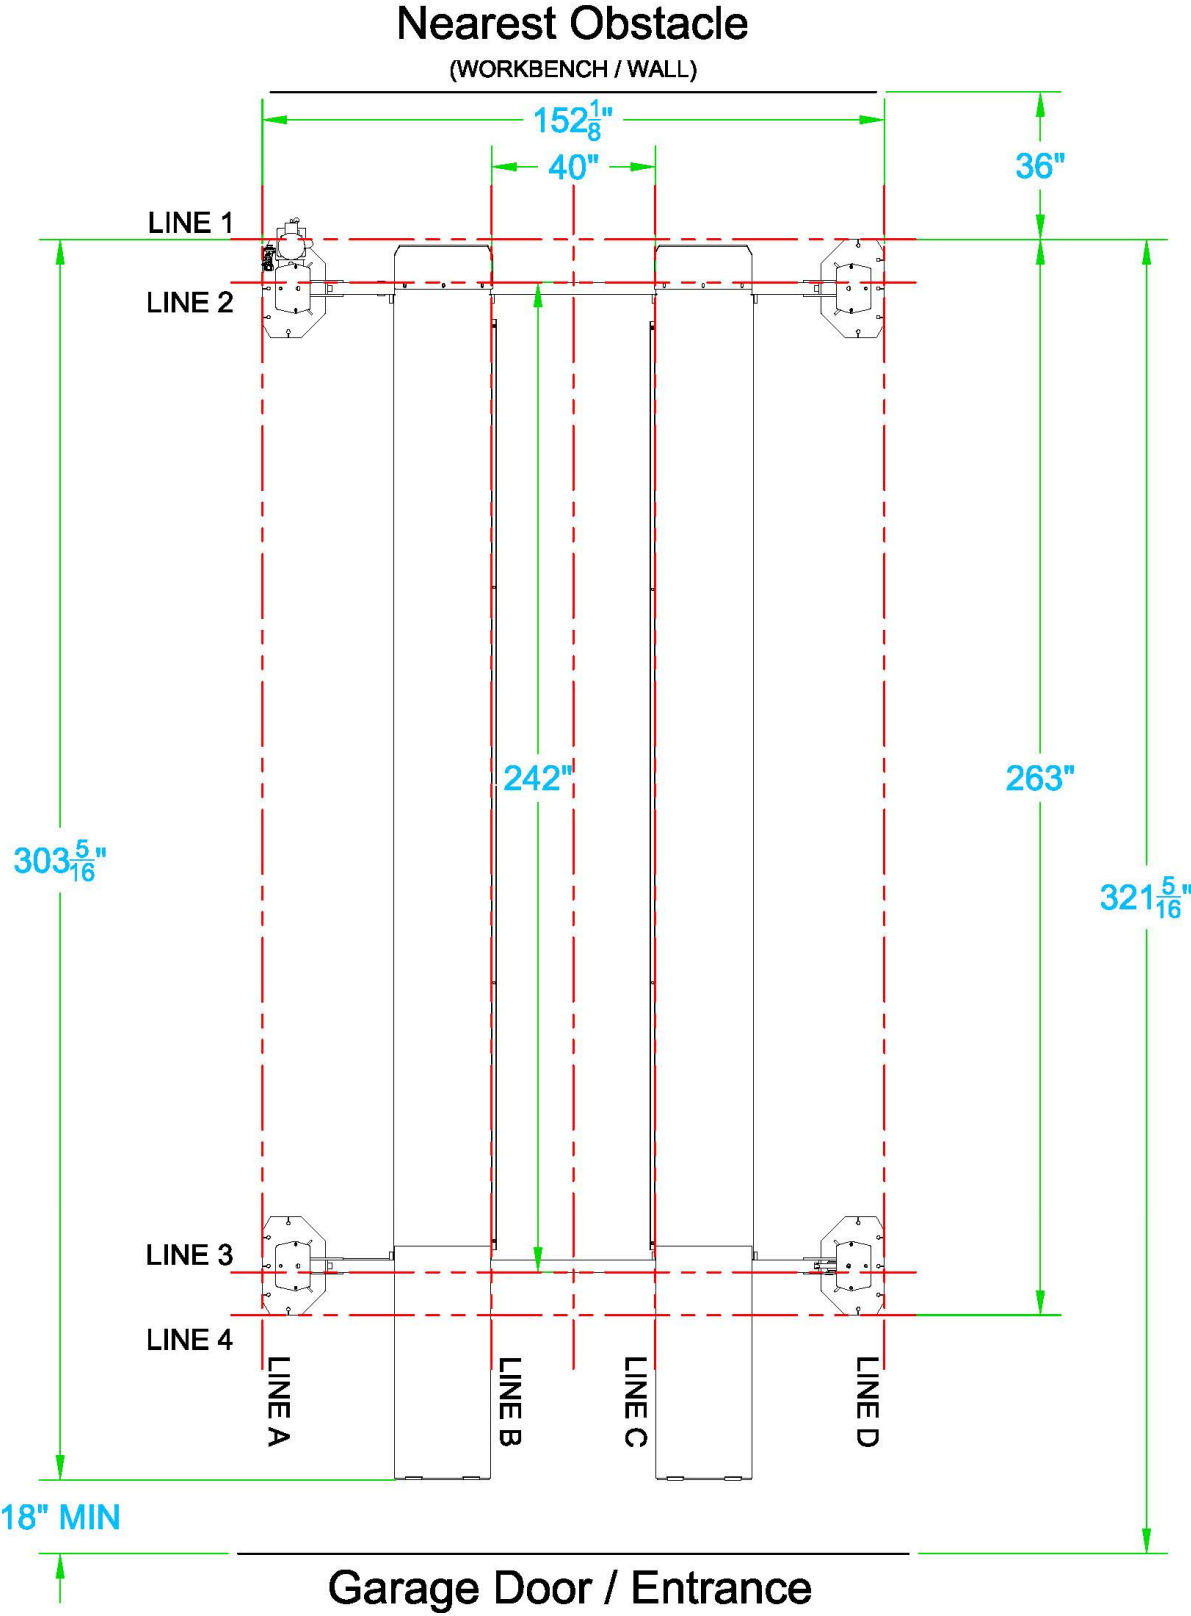

Figure 3 – Typical Bay Layout
- An outline matching the dimensions shown in **Figure 2** will need to be marked on the floor. Refer to **Figure 3** for outline dimensions. Refer to General Lift Specifications for overall lift dimensions.
- Recommended minimum clearance around the lift is three (3) feet. Ensure clearance conforms to local building and fire codes.
- Recommended overhead clearance is a minimum twelve (12) foot ceiling providing 6 feet for the maximum lift height and 6 feet for the supported vehicle. For vehicles taller than 6 feet it is recommended that the user provides additional overhead clearance or a shut off mechanism to stop the lift from raising the vehicle too high.
Before proceeding, check that the layout matches that shown in Figure 3, that the lift is square and that there is a 40" gap between the decks along their entire length. This dimension is critical as it is necessary to allow the jackbeams to roll freely.